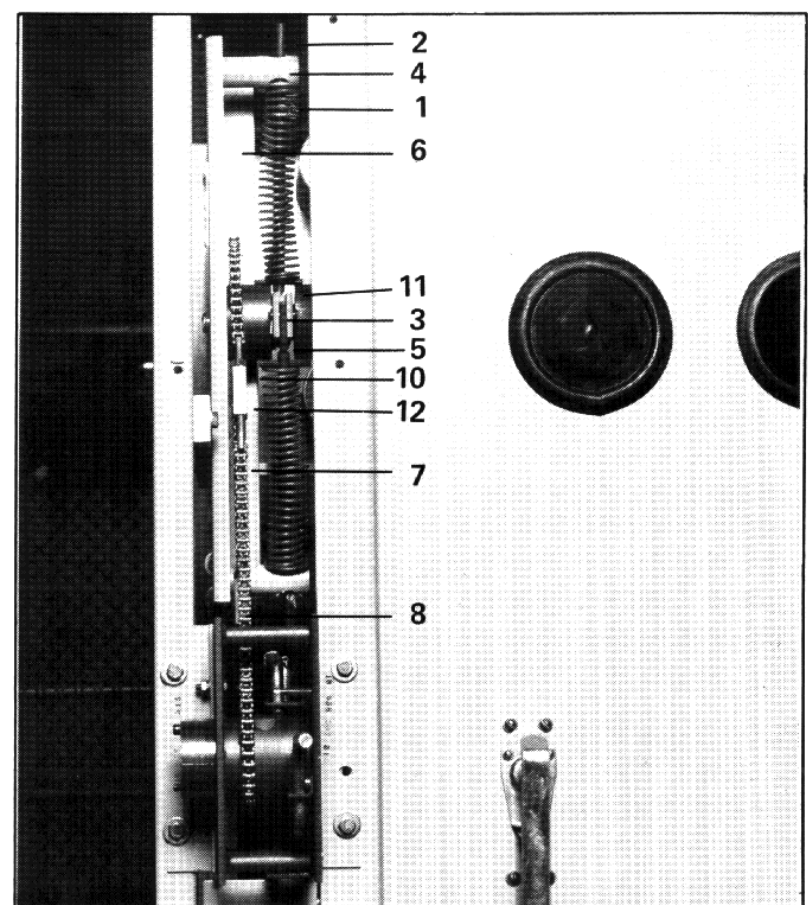
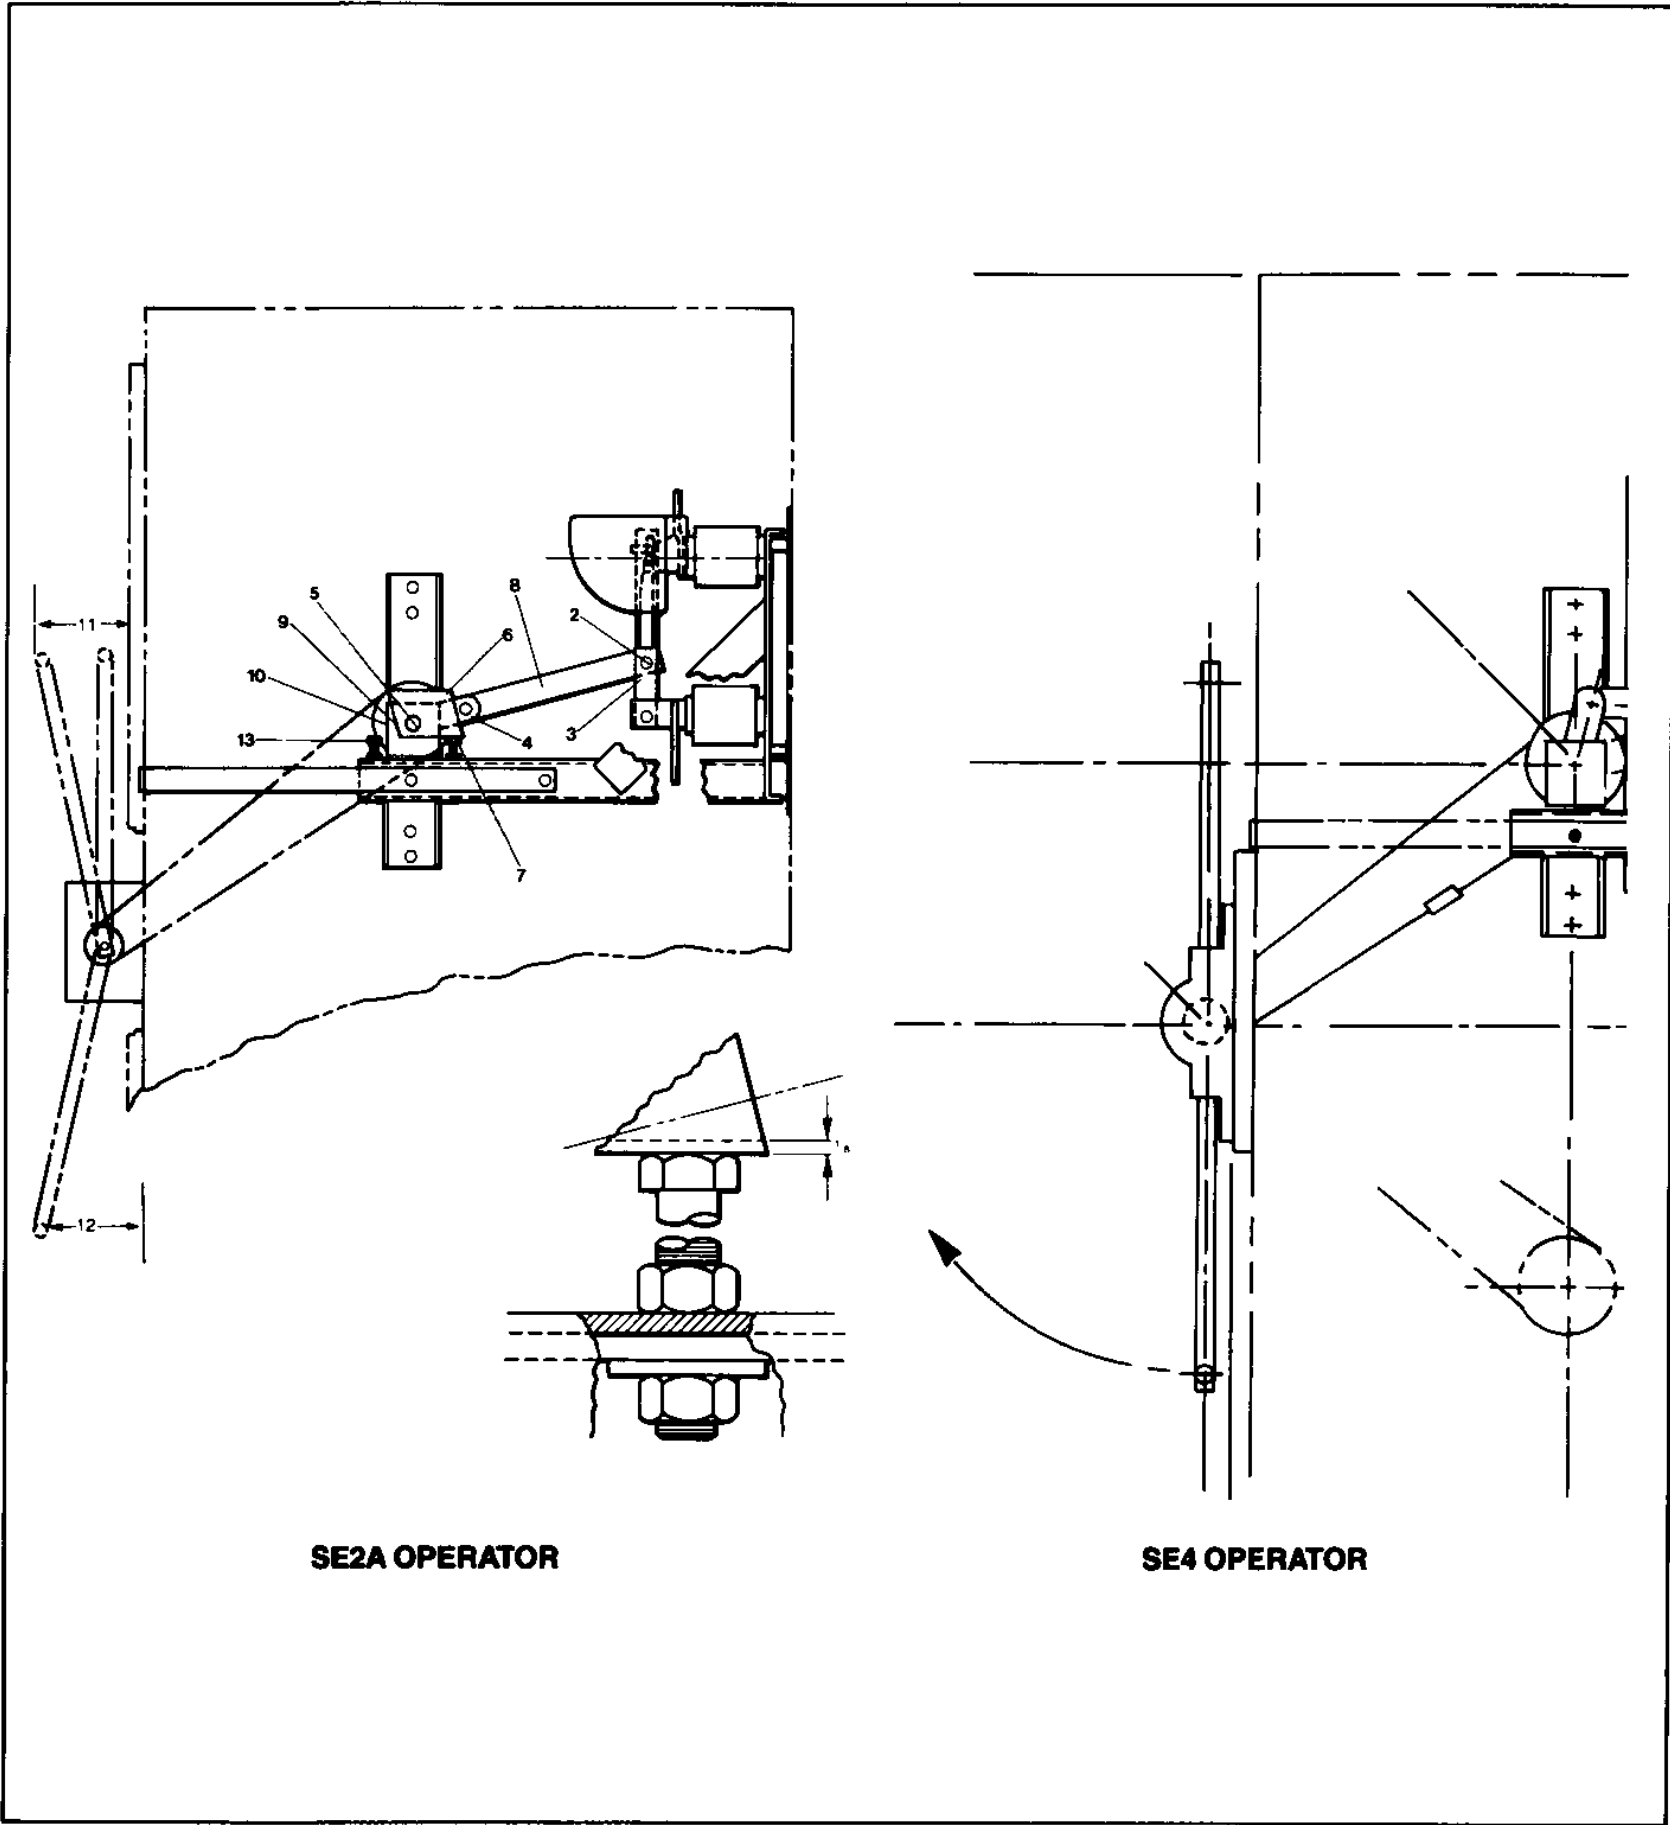

Figure 13. Operator Mechanism
Figure 18. Typical Load Interrupter Switch Assembly
The spring mechanism (Figure 13) consists of a pair of compression springs (1) guided inside by a pair of spring guide rods (2). One end of the rod is pinned at the actuator (3) and the other end is guided by a hole on a post (4). The actuator is mounted on the shaft assembly (5) and is free to rotate. The large chain sprocket (6) is mounted on the shaft assembly and is also free to rotate. The large chain sprocket assembly is connected thru chain (7) to the small chain sprocket assembly (8) and the front handle assembly.
- 6. Check stop bolt (Figure 18, items 7 and 13) position every 100 operations and adjust per instructions below.
- 7. Check mounting bolts for shaft bearing angle support (Figure 18, item 10) for tightness every 100 operations.
When replacing upper jaw contact or main blades the main blades must touch the stop bolt (7, Figure 18). When the hole (2) in the main switch blade (3), the hole (4) in the arm of the shaft assembly (5) and the center of the shaft assembly are held in a straight line, the stop bar (6) on the shaft assembly should be 1/8 inch (3 mm) above the closing stop bolt (7). The stop bolt height should be adjusted to achieve the correct height. Tighten the jam nuts to lock the bolt in position. This provides the proper over-toggle of the connecting link (8) in the closed position.
When the spring mechanism goes over center during opening and closing the position of the operating handle should be such that dimensions (11) and (12) in Figure 18 are approximately equal. This is adjusted (Figure 13) by turn buckles on chain.